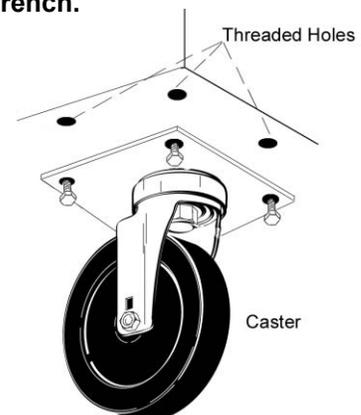

Fig. 2
Please note that Traulsen units are not designed to be moved while on legs. If the unit requires moving, a pallet jack or forklift should be used to prevent damage. For installing casters, the casters are "plate" type, and require the use of four (4) bolts each to secure them firmly to the cabinet bottom at each corner (see figure 2). The caster bolts are tightened using a 1/2" socket wrench.